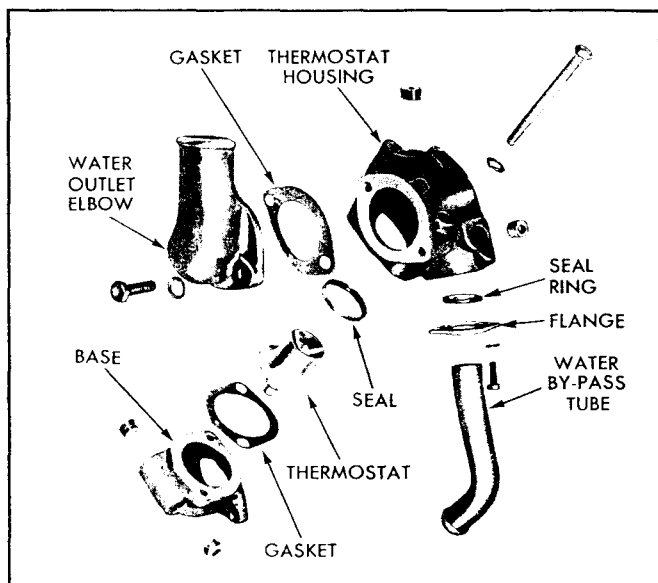

Fig. 3 - Thermostat Housing Details and Relative Location of Parts (V-Type Engine)
4. On the V-type engine, remove the cross-over by-pass tube which is located between the thermostat housings. Also, disconnect the by-pass tube between the water pump and the thermostat housing (Fig. 3). Remove the gaskets. Then loosen the bolts and remove the thermostat housings from their bases. Remove the thermostats and remove and discard the thermostat seals.